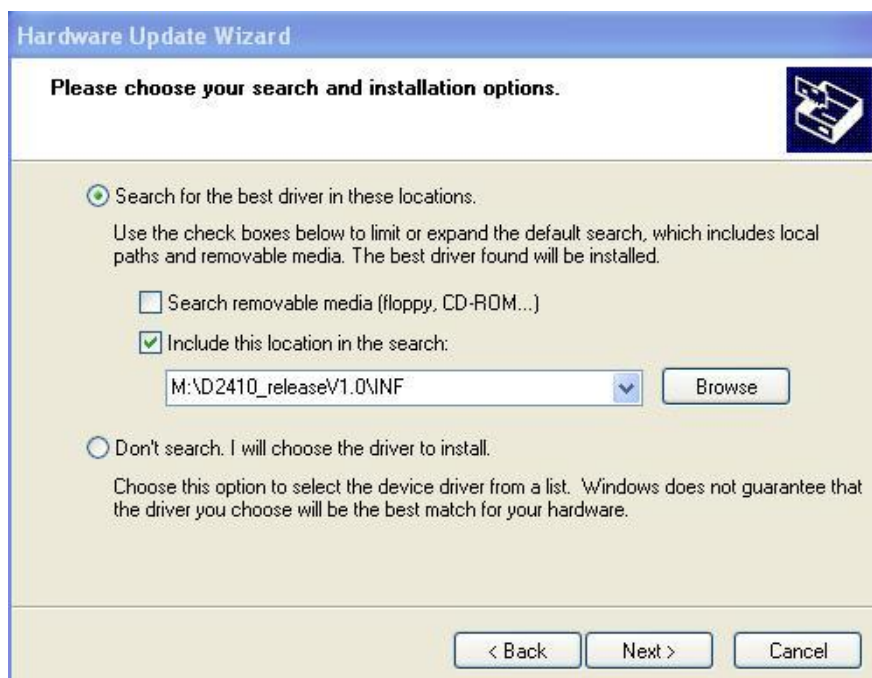

Figure 2-3 Start to install driver
7. Click “Next” to continue installation, see Figure 2-3.